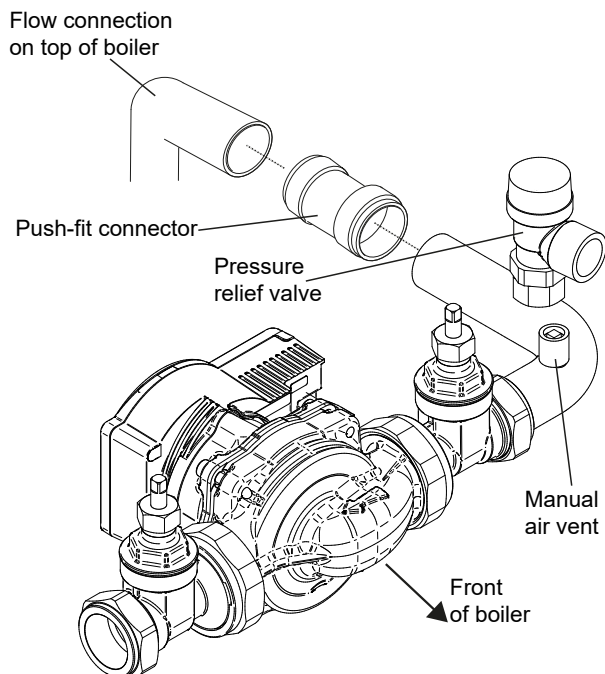

Figure 7-4: VortexBlue External 36 sealed system kit pump assembly (Wilo Para SC pump shown)
See Figure 7-4
12. Fit the pressure relief valve onto the manifold pipe, then push the manifold pipe end into the 28 mm push-fit elbow on the flow pipe. Refer to Figure 7-4.